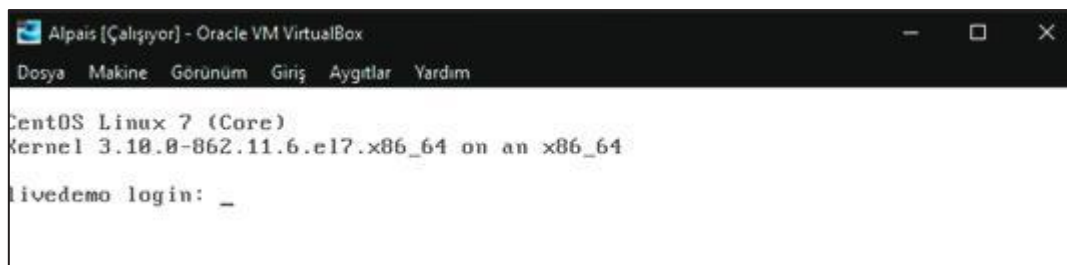

Figure 18. Login
- e) After clicking the Import message, the file is expected to get. After double-clicking on the file, it is waited for the login screen to open. (If the Change Network Settings screen appears the first time the file is opened, press OK without making changes.) Login with the user name and password. (See Figure 18). See APP 5 for remote access. After access, the following input screen is displayed.